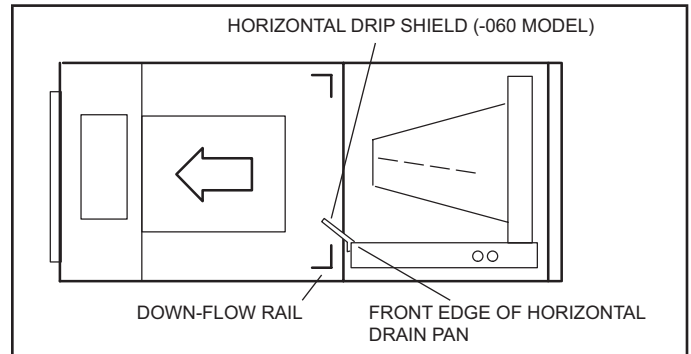

FIGURE 4. Left-Hand Discharge Configuration
- 8 - From the upflow position, flip cabinet 90° to the left and set into place. Replace blower assembly. Secure coil in place by bending down the tab on the cabinet support rail as illustrated in figures 4 and 5.
- 9 - Install the horizontal shield (-060 model) on the front edge of the horizontal drain pan as illustrated in figures 4 and 5.